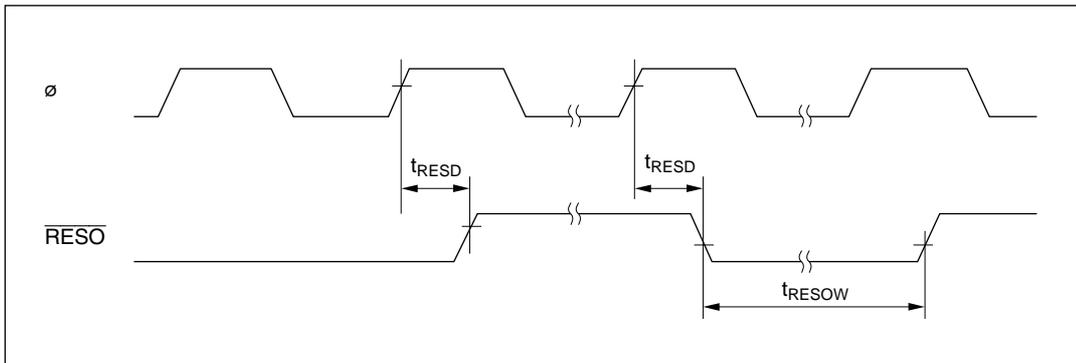

Figure 20-22 Reset Output Timing
20.3.10 Reset Output Timing	Figure 20-22